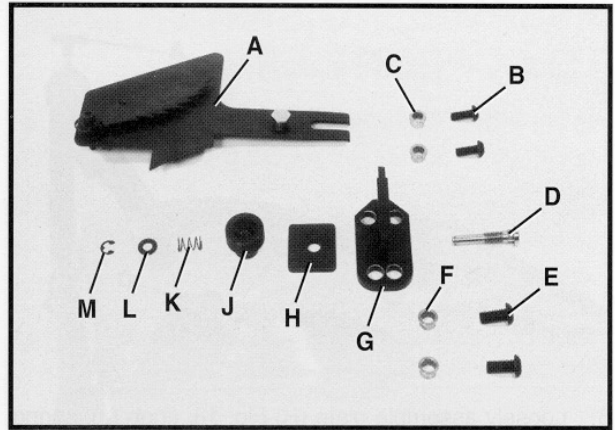
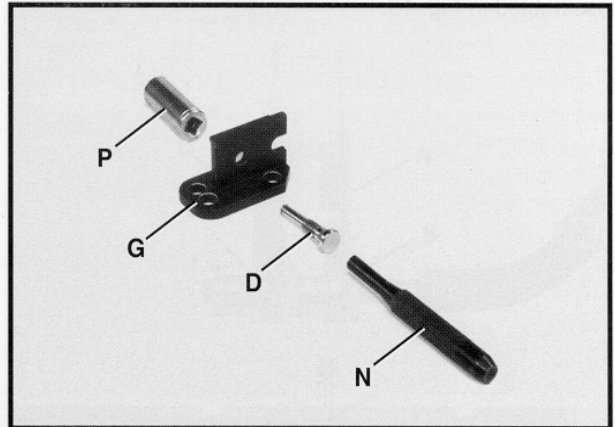
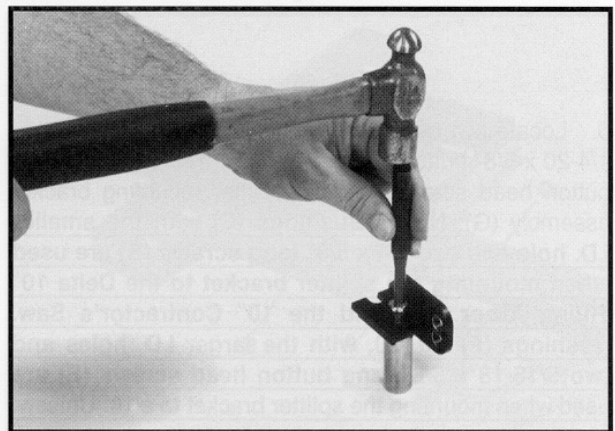

Fig. 14
Fig. 15
Fig. 16
1. Locate the following components shown in Fig. 14, for the splitter assembly.
- B. 1/4-20 x 5/8" button head screws (2)
- C. 1/4" Bushings (2)
- E. 5/16 - 18 x 5/8" button head screws (2)
- F. 5/16" Bushings (2)
3. Insert and seat stud (D) Fig. 15, through hole in side of splitter mounting bracket (G). **NOTE:** It will be necessary to have a hammer, punch (N) and a tool with a recessed hole, similar to the deep well socket (P) in order to seat stud (D) Fig. 15, and used as shown in Fig. 16.